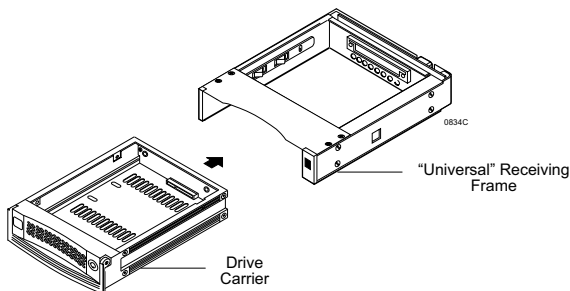

Figure 2: SATA DE110 "Universal" Receiving Frame and Carrier
The StorCase Technology **Data Express® Serial ATA DE110** is a removable drive carrier and "universal" receiving frame, designed to provide durable and reliable mounting for one (1) low-profile (up to 1" high) 3.5" SATA drive within a 5.25" half-height peripheral slot (Figure 2).